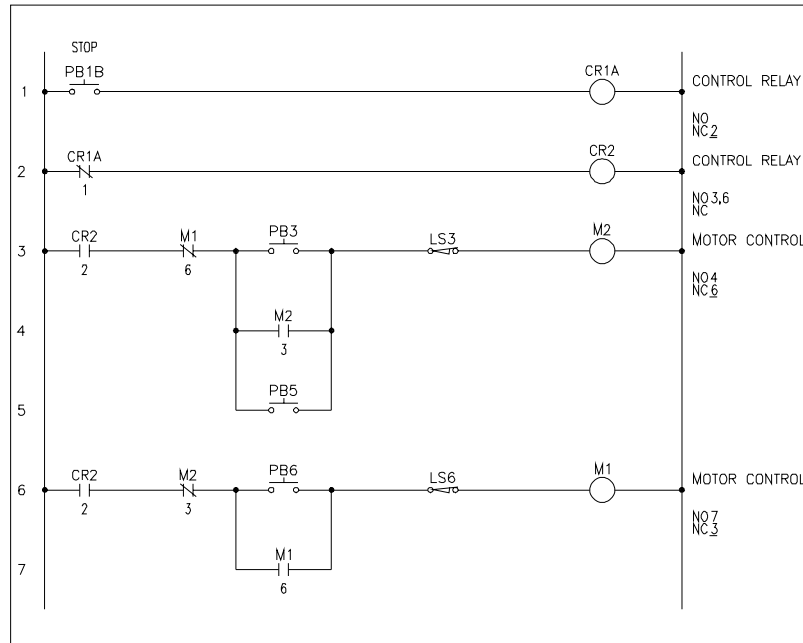

Figure 6-47 The trimmed wires and the aligned components
7. Repeat step 1 and then select PB3; you are prompted to select objects. Next, select M2 placed on rung 4, PB5, PB6, and M1 placed on rung 7 from the drawing and then press ENTER; the selected components are aligned. Figure 6-47 shows the aligned components.